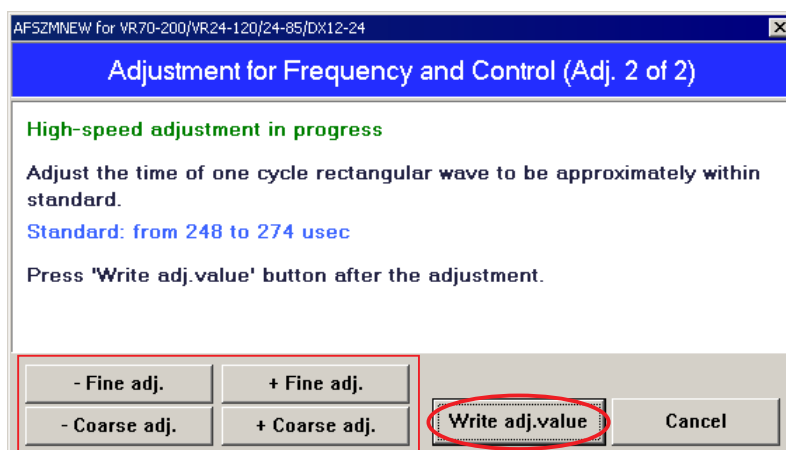

Fig.5
- When the adjustment is completed, click "Write adj.value" of "Fig.5".